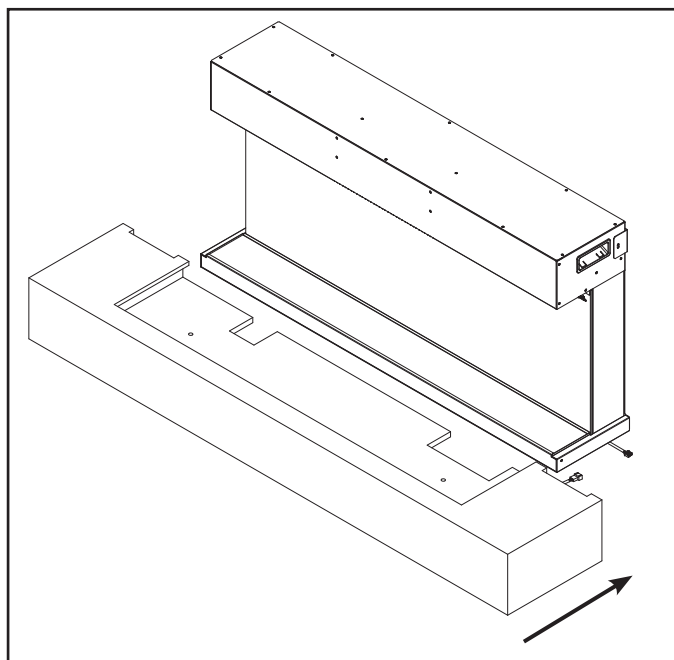

Figure 6
- Slide the bottom mantel section onto the appliance and connect the bottom mantel wire connection to the appliance wire connector protruding from the bottom of the appliance (the cover plate on the bottom of the appliance may need to be removed to access the wire connector). See Figure 6.